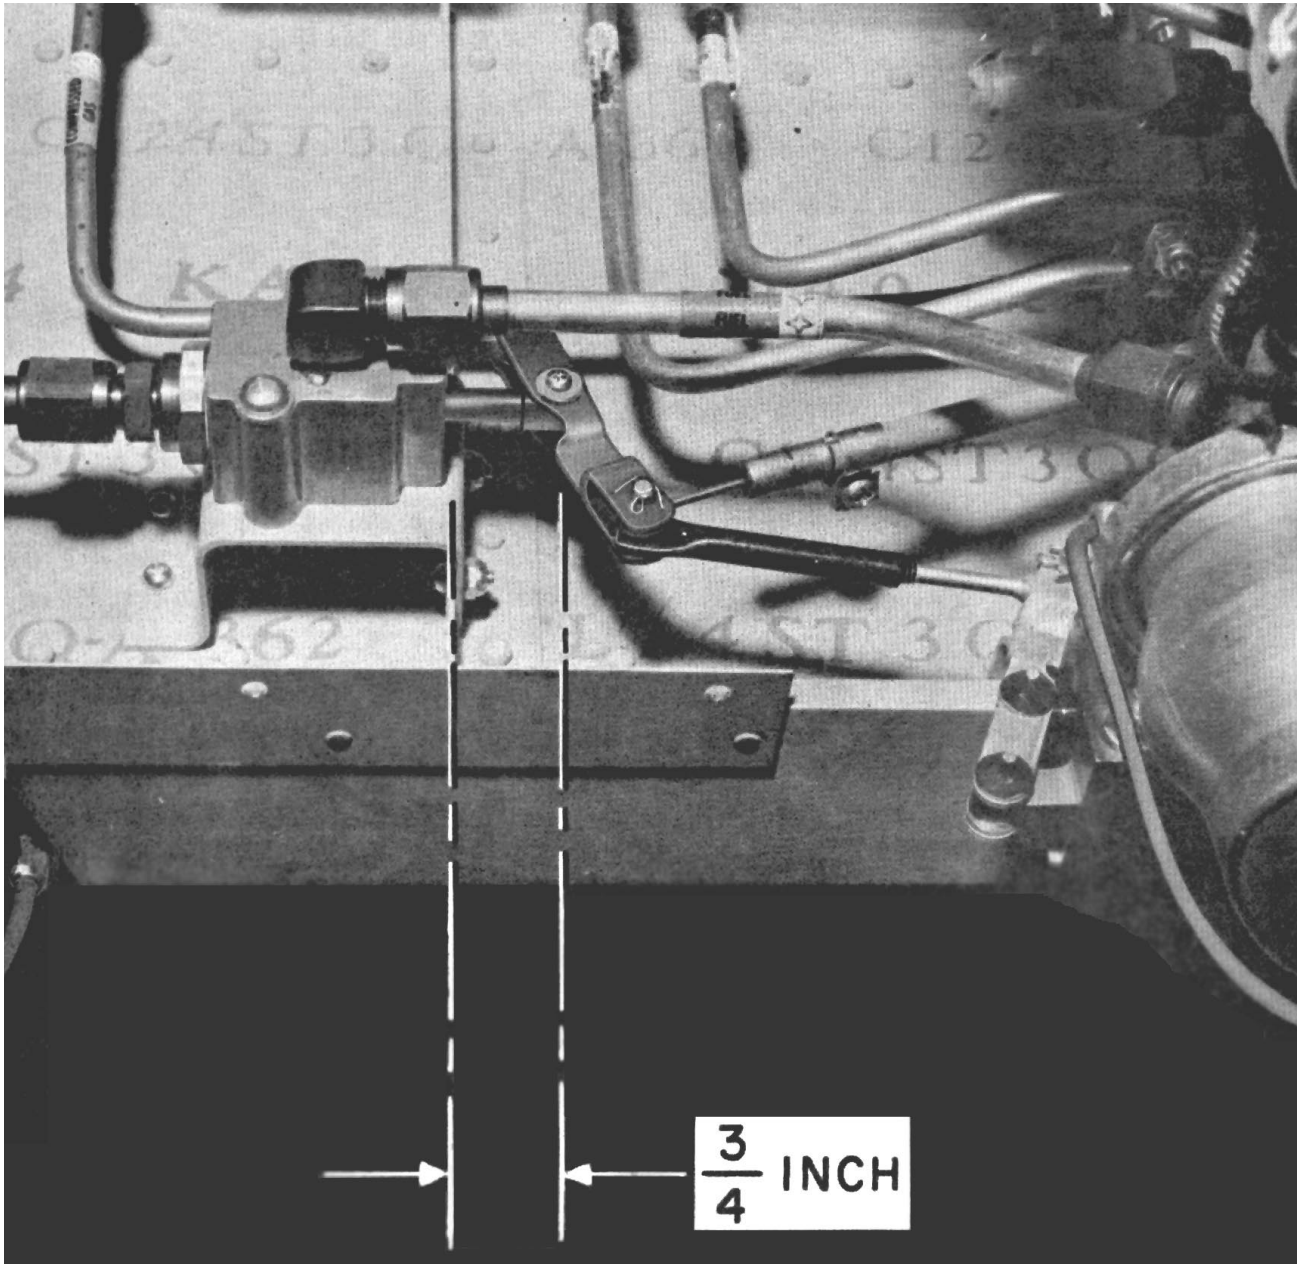

Figure 9-4. Checking Recommended Clearance Between Valve Arm and Valve in the “ON” Position
- e. When either valve is open by virtue of the control being placed in the “ON” position, there must be no less than 3/4 inch between the valve-to-arm attaching rivet and the valve body to obtain complete freedom of travel. (Refer to Figure 9-4.)